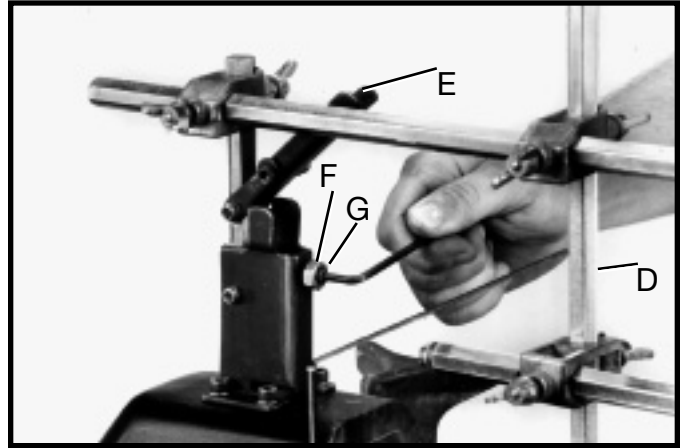
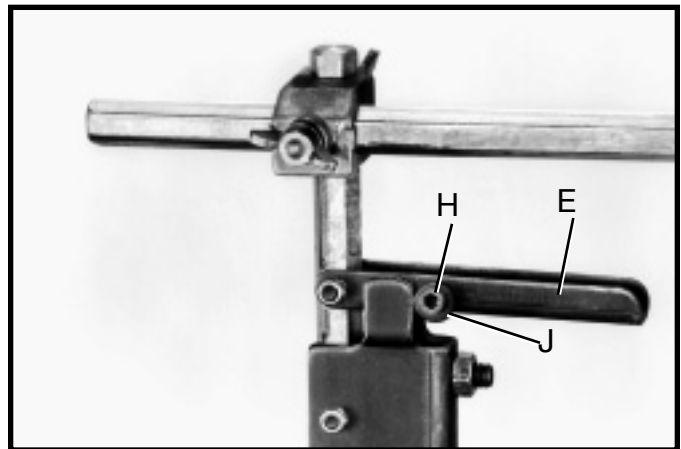

Fig. 56
Fig. 57
Lift up on guard locking handle (E) Fig. 56, loosen lock nut (F), and turn screw (G) until shaft (D) is 90 degrees to the table surface, then tighten lock nut (F).
Push down on guard locking handle (E) Figs. 56 and 57, until it locks in place as shown in Fig. 57. If the locking action is too loose or tight, loosen screw (H) and adjust cam washer (J), then tighten screw (H). Repeat this adjustment on the screw and cam washer located on the other side of guard locking handle (E).